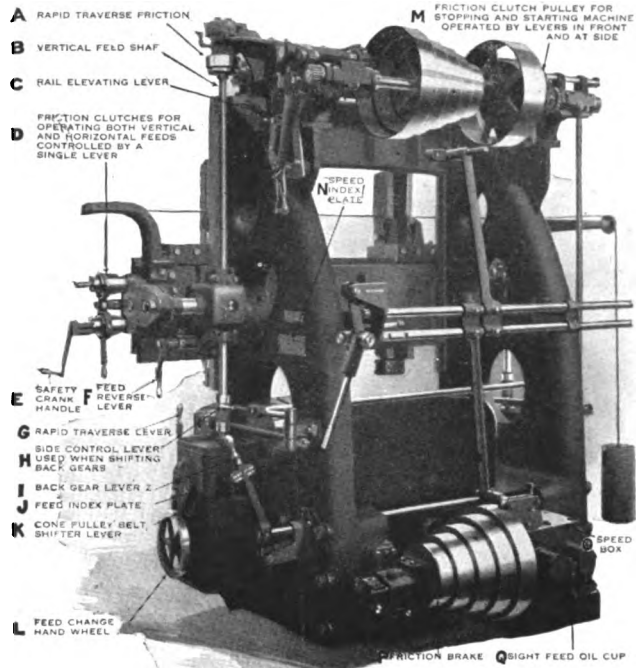

FIG. 15. REAR VIEW OF 54 in. (1372 mm.) VERTICAL BORING AND TURNING MILL, SHOWING CONE PULLEYS AND MECHANICAL BELT SHIFTER
**CONE PULLEYS AND BELT SHIFTER**—The five step cone pulleys (Fig. 15) are of large dimensions and are carried on heavy shafts supported by bearings on each side, so that there is no overhang or unsupported load. This construction prevents vibration. By the use of the mechanical belt shifter (patented), operated with one hand, the belt can be changed from one step to another with ease and facility, so as to permit instant changes of speed under load.